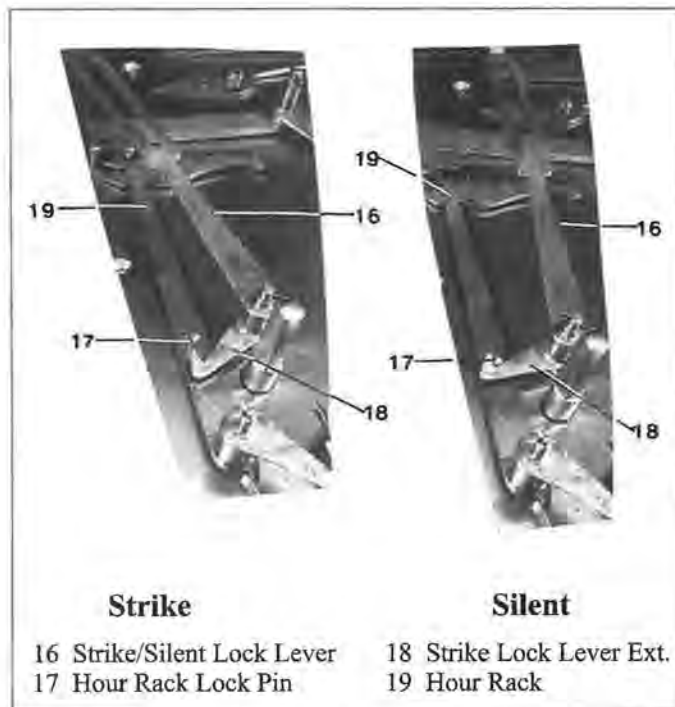

Figure 33.5. Strike/Silent Lock Lever
20. Install strike/silent lock lever (Figure 33.5).